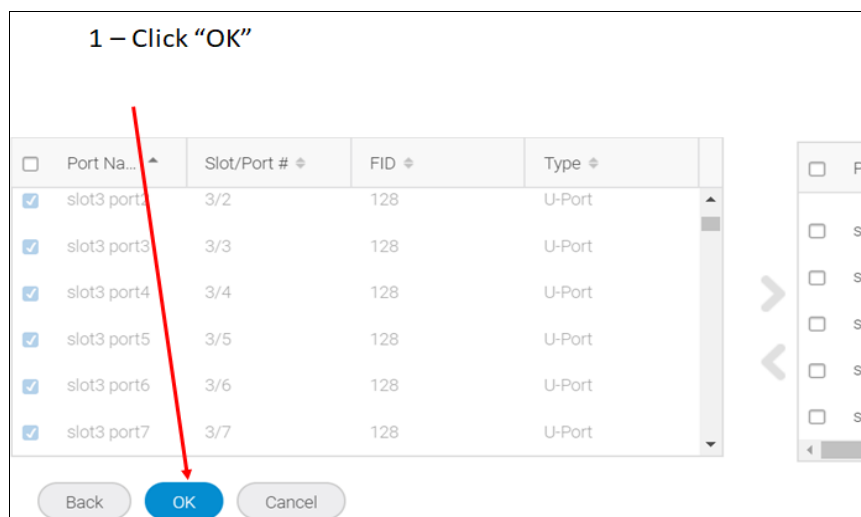

Figure 6-17 Completing the addition of the ports
- d. Click **OK** to finish adding the ports (see Figure 6-17).